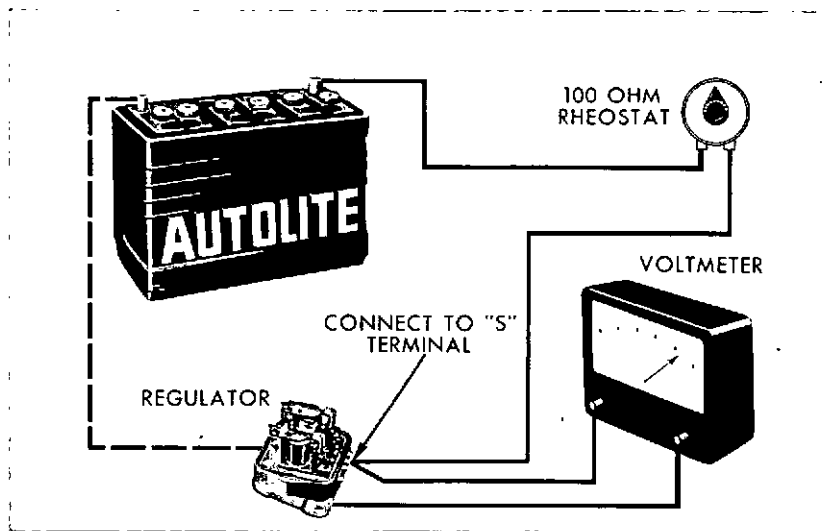

Fig. 10 — Field Relay Test Hook-Up — Ford Autolite Shown
**TEST CONNECTIONS AND PROCEDURE** — A 100 ohm rheostat and a voltmeter are used to make this test. The test connections for Autolite regulators are shown in Fig. 10. If the test is made with the regulator in place, disconnect the battery ground cable and all connections at the regulator before proceeding.